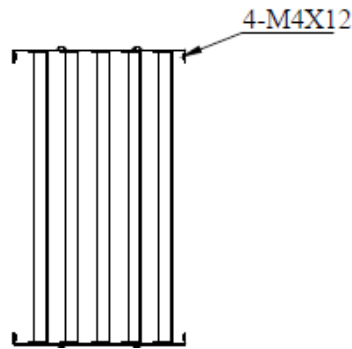

Figure 2-25 Position of the screws on the grille
- The grille contains several blocks – remove the screws on the left and right hand side of the grill followed by rotating it by 180°. The mounting screws of the grille are shown in Figure 2-25.